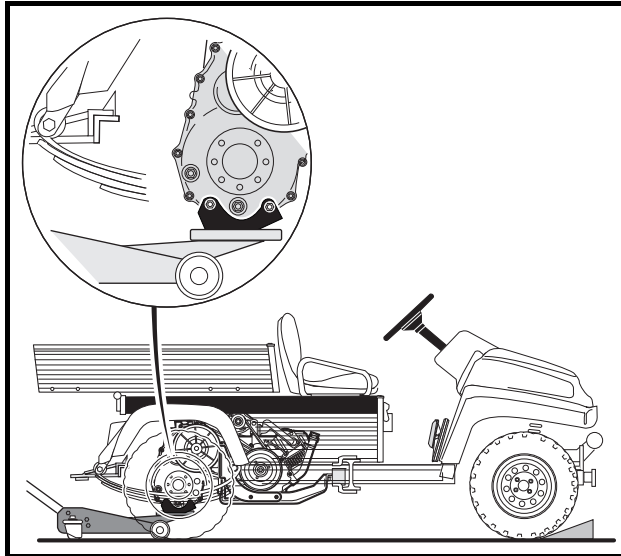

Figure 9-2 Correct Positioning of Floor Jack
3. Chock the front wheels and lift rear of vehicle with a chain hoist or floor jack. If using floor jack, place jack under transaxle as shown (**Figure 9-2, Page 9-3**). **See WARNING “Lift only one end...” in General Warning, Section 1, Page 1-2**